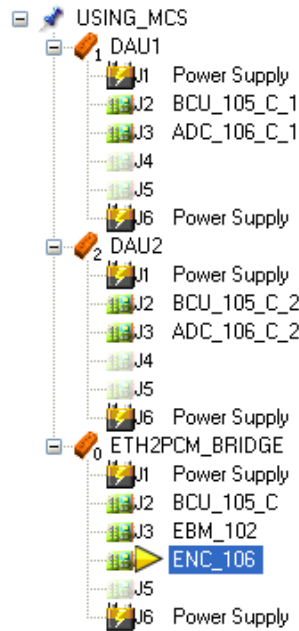

Figure 41-2: Example of a network data acquisition system in kSetup
In Figure 41-2 on page 328, the MCS automatically creates packets to transfer parameters from DAU1 and DAU2 to the ETH2PCM\_BRIDGE DAU for those placed in the PCM. It automatically sets up the Ethernet bus monitor accordingly.
- To not interleave parser slots from the same bus module. In Figure 41-2 on page 328, the KAD/EBM/102 in the Ethernet to PCM bridge DAU is an Ethernet bus monitor. Each parameter at the same rate from the same DAU is parsed by one parser slot from the KAD/EBM/102. Therefore you should place slave parameters from the same DAU at the same rate in a horizontal, sequential placement in the PCM frame. This limits the overhead needed when accessing these parser slots.